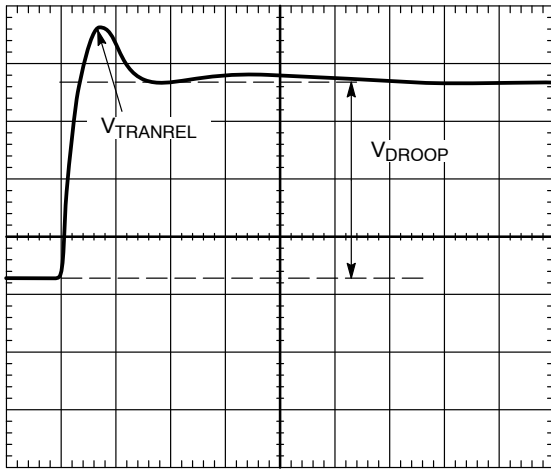

Figure 18. Transient Setting Waveform
20. For load release (see Figure 18), if $V_{TRANREL}$ is larger than the allowed overshoot, there is not enough output capacitance. Either more capacitance is needed, or the inductor values need to be made smaller. When changing inductors, start the design again using a spreadsheet and this tuning procedure.